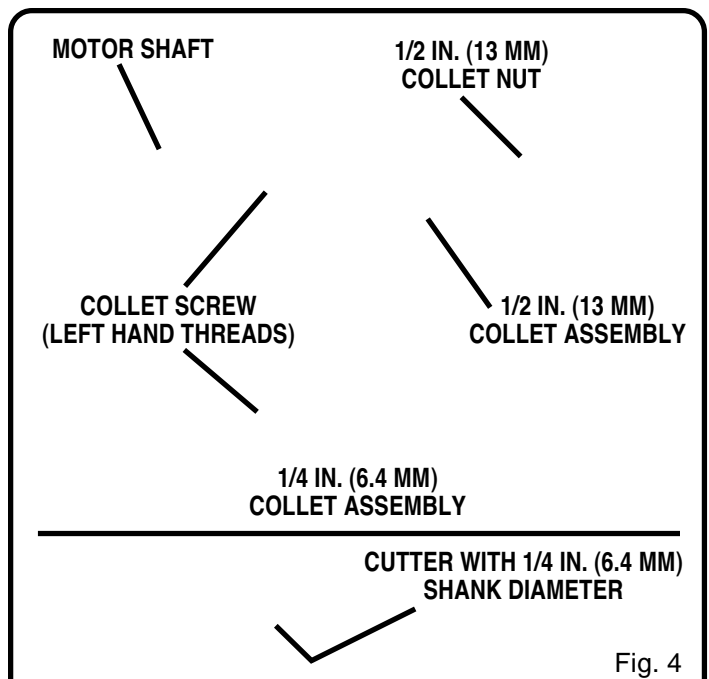

Fig. 4
6. The 1/2 in. (13 mm) collet is machined to precision tolerances to fit cutters with 1/2 in. (13 mm) diameter shanks. A 1/4 in. (6.4 mm) collet assembly has also been provided with your router so that cutters with 1/4 in. (6.4 mm) shank bits can be used. See Figure 4.
*See Figure 4.*